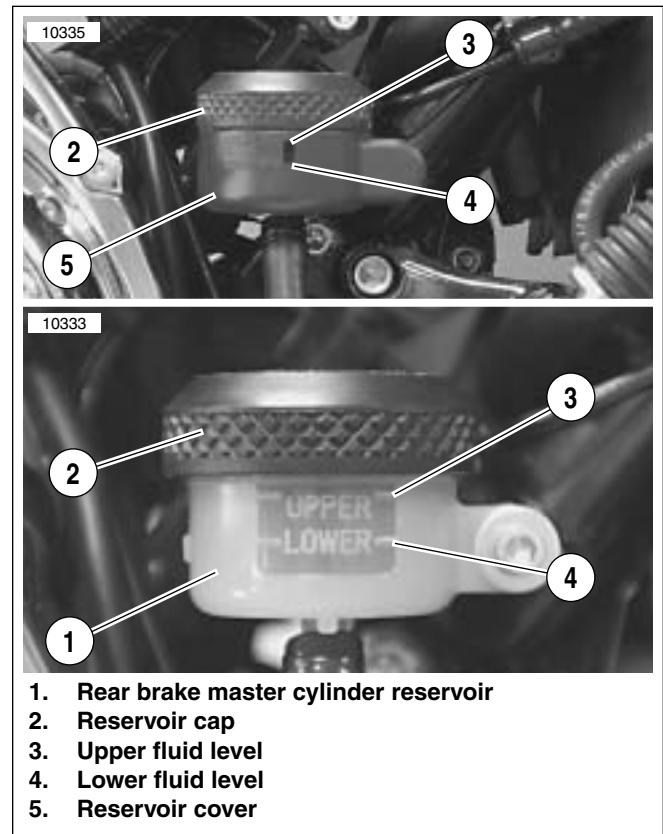
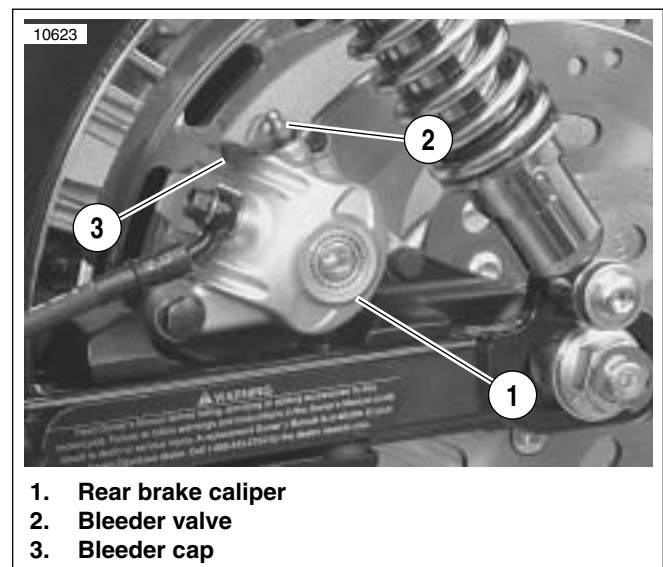

Figure 1-26. Rear Brake Master Cylinder Reservoir
Figure 1-27. Rear Brake Caliper
- See Figure 1-26. Vehicle must be upright so that rear brake master cylinder reservoir (1) is in a level position when filling and checking fluid level.
- Reservoir cover (5) may be removed from rear brake master cylinder reservoir to more easily verify fluid level in reservoir.
1. Position motorcycle upright (not resting on jiffy stand). See Figure 1-26. Unscrew and remove reservoir cap (2).
2. Add HARLEY-DAVIDSON D.O.T. 5 BRAKE FLUID to master cylinder reservoir (1) until the fluid reaches the upper fluid level (3).
3. See Figure 1-27. Remove bleeder cap (3). Install end of a length of 5/16 in. (7.9 mm) I.D. clear plastic tubing over caliper bleeder valve (2). Place free end of tube in a clean container.
8. See Figure 1-26. Add HARLEY-DAVIDSON D.O.T. 5 BRAKE FLUID to master cylinder reservoir (1) until the fluid reaches the upper fluid level (3).
9. Replace reservoir cap (2). Replace reservoir cover (5) if removed.